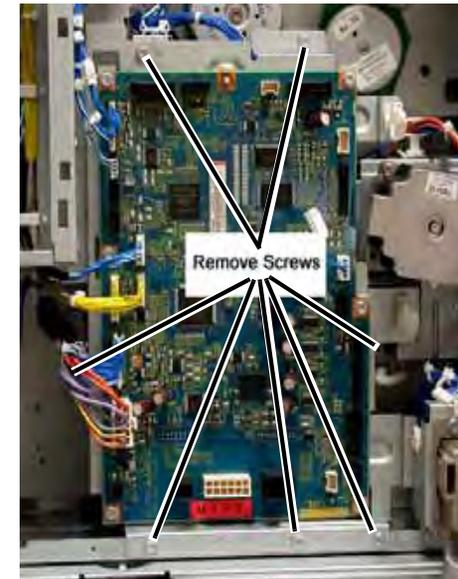

Figure 2 Removing Screws
4. Perform the following (Figure 2)
- a. Remove the MCU PWB chassis Screws (7).